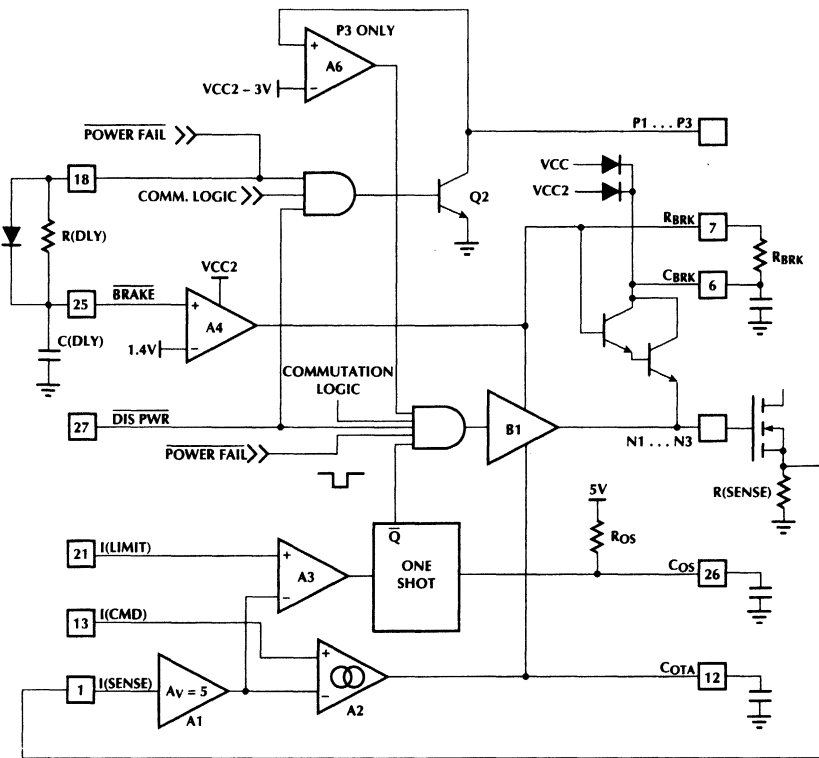

Figure 7. PWM and Linear Current Control, Gate Drive and Braking Circuits
To facilitate speed control, the ML4412 includes two current control loops — linear and PWM (fig. 7). The linear control loop senses the motor current on the I(SENSE) terminal through  $R_{SENSE}$ . An internal current sense amplifier's (A2) output modulates the gates of the 3 N-channel MOSFET's.
As shown in Figure 7 the braking circuit pulls the N-channel MOSFET Gates high when the BRAKE pin falls below a  $2 \times V_{be}$  threshold ( $V_{th}$ ). After a power failure, C(DLY) is discharged slowly through R(DLY) providing a delay for retract to occur before the braking circuit is activated. The P-channel MOSFETs are turned off well before braking occurs. As soon as the  $V_{th}$  threshold is reached, the braking comparator with hysteresis will accelerate the transition and tri-state the N-channel buffer (B1, refer figure 7) before C(BRK) dump charges into the N-channel Gates. This is to ensure that no charge from C(BRK) is lost through the pull-down transistors in B1, (figure 7). The C(BRK) will continue charging the N-channel Gates, to ensure braking, even when VCC2 (motor BEMF rectified through the MOSFET body diode), drops due to the braking process. An external signal could be used to brake the motor. To accomplish this set pin 17 = '1', pin 19 = '0'. This will pull pin 26 below the threshold to activate the braking circuit.
1. When transitioning from mode 0 to mode A (see table 1) P3 goes from on to off at the same time N3 goes from off to on. If P3 turns off slowly and N3 turns on quickly, cross conduction may occur. This condition has been prevented inside the IC on the ML4412 through the addition of comparator A6 on the P3 output (Fig. 7).